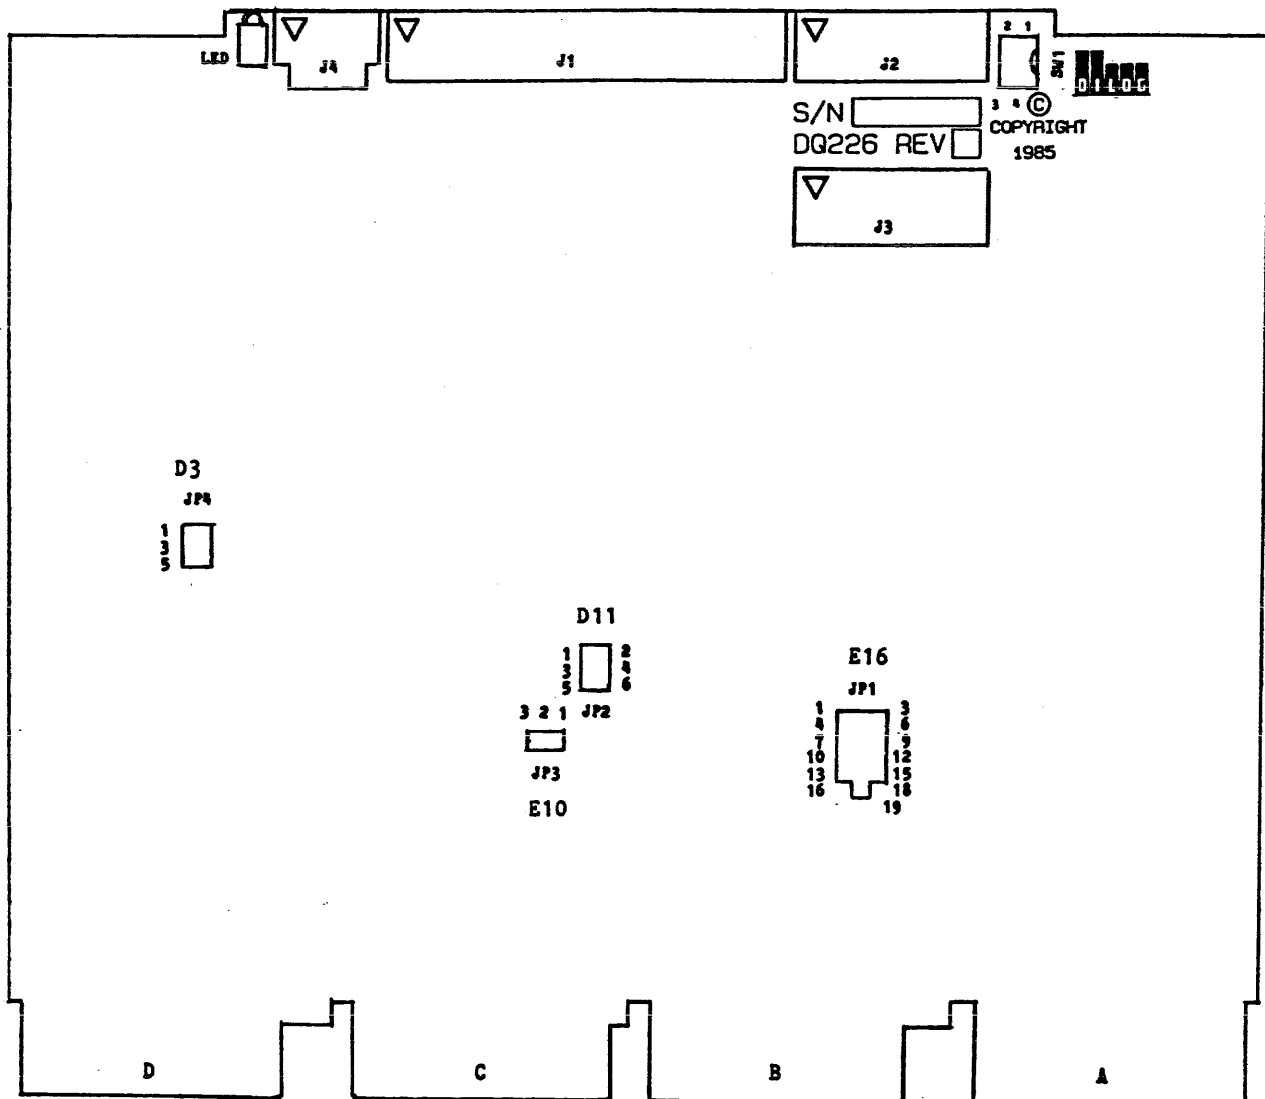

Figure 2-1. Controller Configuration
Figure 2-1 shows the locations of the switch and jumpers.
2. If two drives are to be installed, install the cable for the second drive into J3 on the controller before installing the controller into the backplane. Ensure pin 1 of the cable is matched with the triangle on the connector as indicated on Figure 2-1.
5. Install J1 and J2 into the connectors on the controller. Ensure pin 1 on each cable is matched with the triangle on each connector as indicated on Figure 2-1.